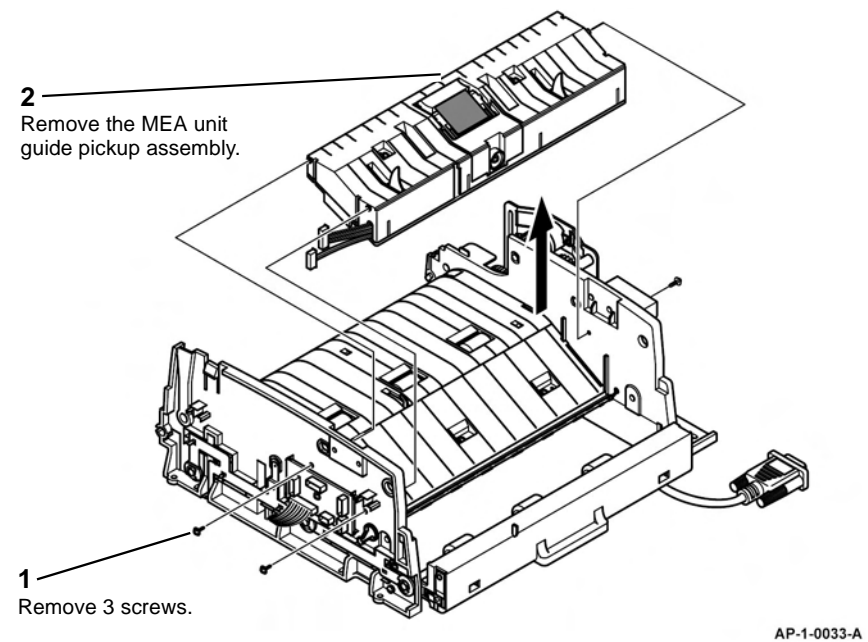

Figure 15 MEA unit guide pickup assembly removal
16. Remove the MEA unit guide pickup assembly, Figure 15.